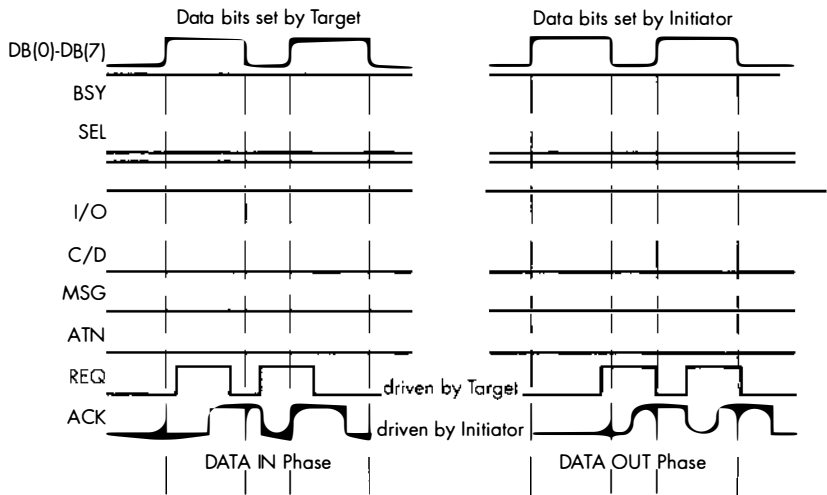
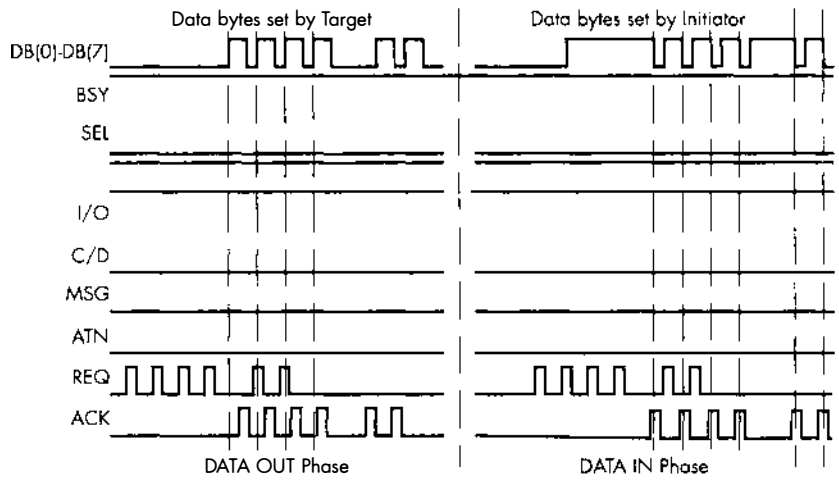

Figure A.28: Asynchronous Data Transfer
Figure A.29: Synchronous Data Transfer
- DATA I/O phases for asynchronous (Figure A.28) and synchronous (Figure A.29) transfer modes